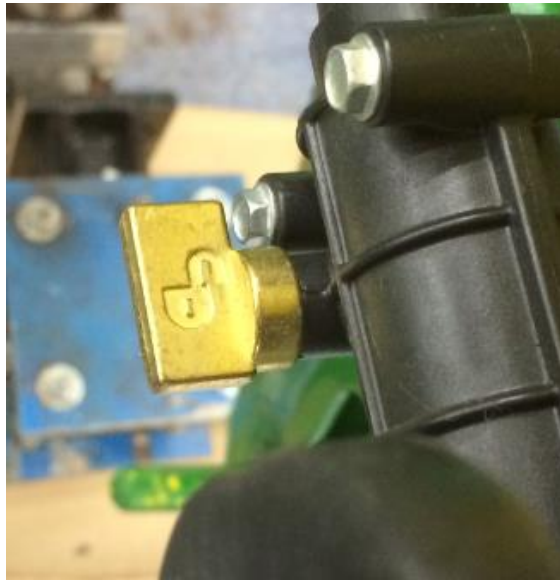

Figure 3, Twist lock in the Unlock Position
- On the seed meter gear box, turn the twist lock such that the unlock symbol is facing up (see Figure 3).